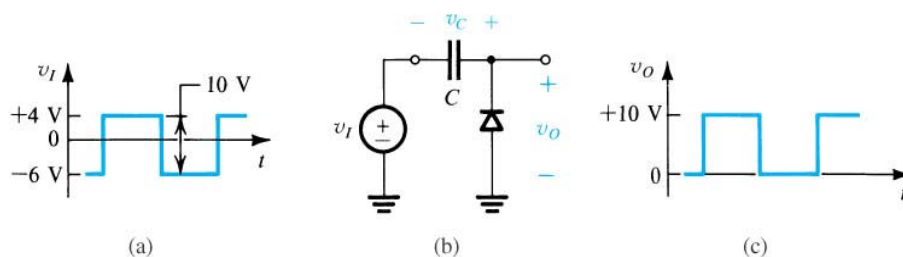

Figure 5.27: The clamped capacitor or dc restorer with a square-wave input and no load.
- Figure 5.27 shows an example of dc restorer with no load.
- * The polarity of v_C is indicated as in Figure 5.27.